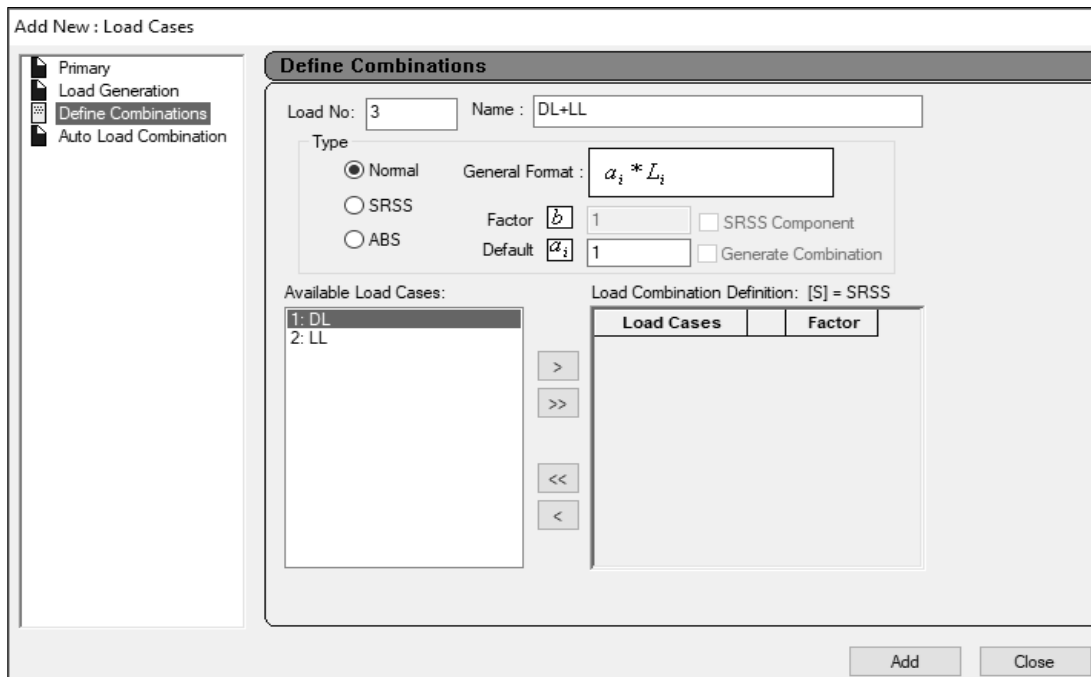

Fig: 4.28
2.5 Load Combination: Load Cases Details → Add → Define Combinations → Name = DL+LL → Default $a_i = 1$, then select DL, LL and click on >> to send right side from left side. (Fig: 4.28)